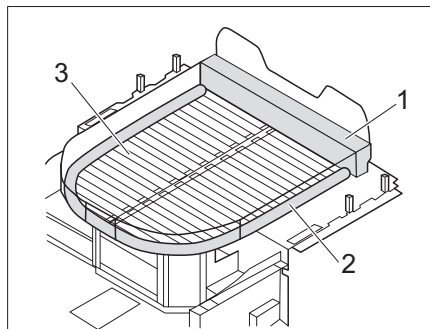

Fig. 184 Bed with mattress extension (with additional mattress and bed slats)
- Place the additional mattresses (Fig. 184,1 and 2) on the front side and around the queen size bed.
- Pull out the bed slats (Fig. 184,3).